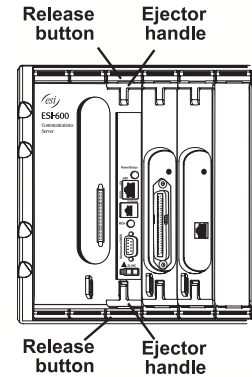

Fig. MM-1
2. Press the **release buttons** (Fig. MM-1) on the top and bottom of the faceplate to release the **ejector handles**.
3. Pull on the **ejector handles** (Fig. MM-1) to pull the main board from the cabinet.